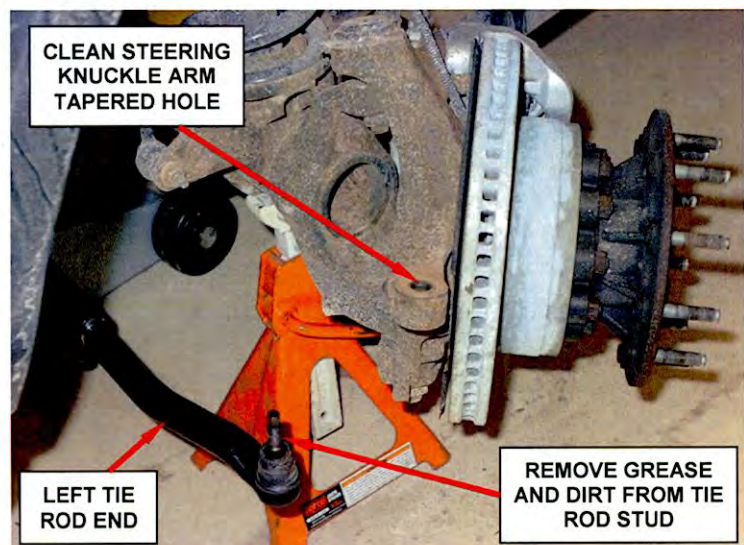

Figure 4 – Clean Steering Knuckle Arm Tapered Hole and Tie Rod End Stud
11. Clean the tapered bore in the steering knuckle with Mopar Brake Cleaner (P/N 04897150AB) or equivalent (Figure 4).
12. Remove any grease or dirt from the tie rod end stud before installing the stud into the steering knuckle arm tapered hole (Figure 4).